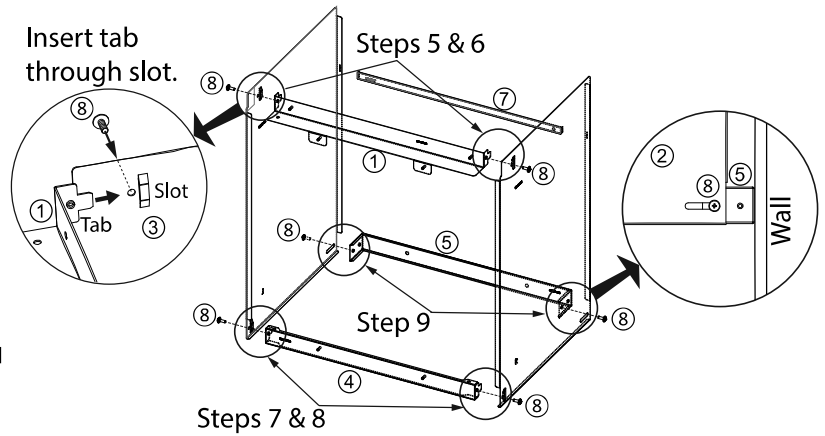

Figure 2 - Pipe Cover Basic Assembly
5. Insert the tabs of the top bracket (1) into the slots in the right and left side covers (2), (3) as shown in Figure 2. Note the orientation of the top bracket (1) in Figure 2.
6. Secure the top bracket (1) and the right and left side covers (2), (3) with the short screws (8).
7. Insert the tabs of the bottom front bracket (4) into the slots in the right and left side covers (2), (3) as shown in Figure 2.
8. Secure the bottom front bracket (4) and the right and left side covers (2), (3) with the short screws (8).
9. Install the bottom back bracket (5) with two short screws (8). See Figure 2. NOTICE: use only one screw per side and in the inner screw hole as shown in Figure 2.